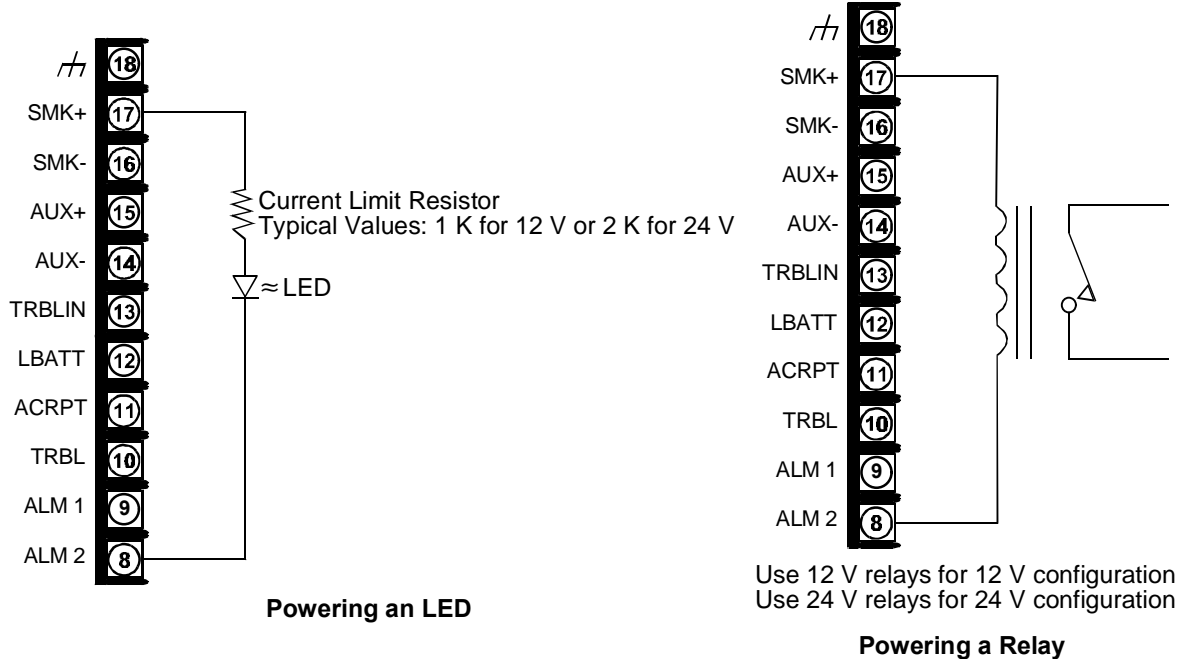

Figure 8: Typical O/C Output Wiring Diagrams
- Open Collector (O/C) outputs (5) rated at 100mA up to 30V max.
- See Figure 8 for typical wiring diagrams for powering an LED or a relay from the O/C outputs.